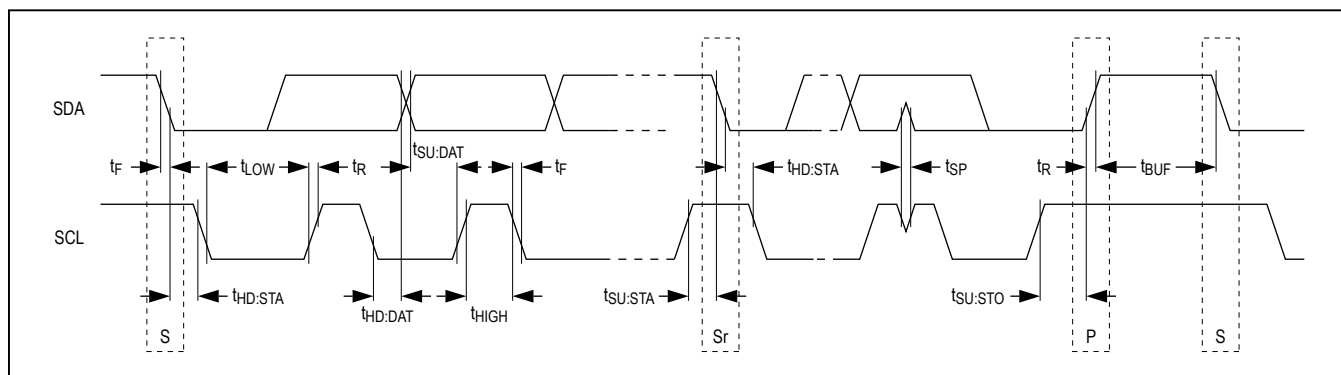

Figure 1. I²C Timing Diagram
The device features an I²C-compatible, 2-wire interface consisting of a serial-data line (SDA) and a serial-clock line (SCL). The SDA and SCL lines enable read and write communication between the IC and a master device at a rate of up to 400kHz. The IC is a slave device, relying on the master to generate the SCL signal. The master initiates data transfer on the bus and generates SCL to permit the transfer. Figure 1 shows the timing for the bus. The two bus lines (SDA and SCL) must be high when the bus is not in use. When in use, the port bits are toggled to generate the appropriate signals for SDA and SCL. The SDA state is allowed to change only while SCL is low. The state of SDA must remain stable while SCL is high, with the exception of START (S) and STOP (P) conditions. Data is transmitted in 8-bit bytes. Nine clock cycles are required to transfer the data bits to the device, with the 9th clock cycle used for an acknowledge pulse. A separate V_{DDI} power-supply input and internal bidirectional level translators are provided to allow the device to interface to a microcontroller running on a voltage other than V_{DD}. The SDA driver is an open-drain output, requiring a pullup resistor to generate a logic-high voltage.
Both SCL and SDA must be high when the bus is not in use. A bus master signals the beginning of a transmission with a START condition by transitioning SDA from high to low while SCL is high (see Figure 1). When the master has finished communicating with the slave, the master